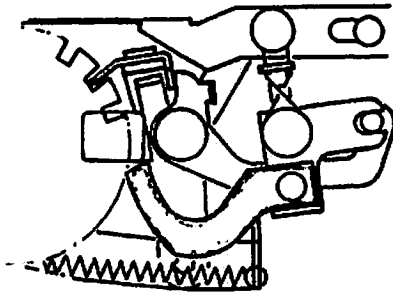

Fig. 144
- 1) Release lever fits Counter dividing device, and Red signal disappears as shown in Fig. 144.